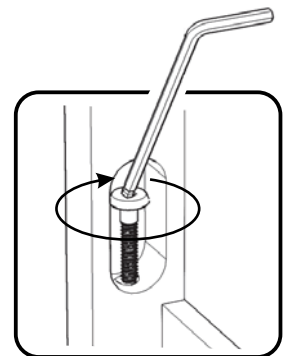

Figure 2
Attach Shelves (D) and Top (A) to Side Panel (C) with Head Cap Bolts. (See Figures 2 and 3)